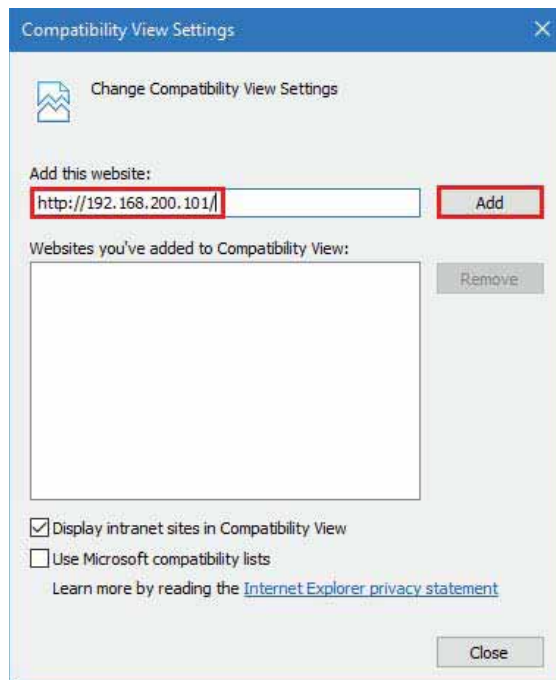

Figure 14. Compatibility View Settings Window
2. In the Menu bar select **Tools > Compatibility View Settings**. The Compatibility View Settings window opens (see Figure 14).